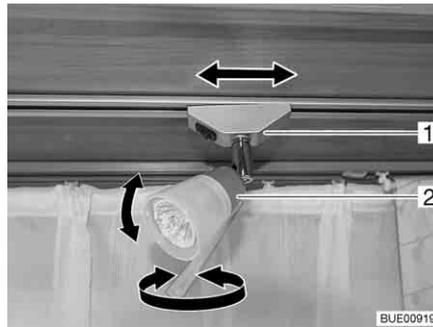

Fig. 46 Spotlight
- Grasp the housing (Fig. 46,2) and turn it.
- Grip holder (Fig. 46,1) and turn by approx. 45°.
- Grip holder (Fig. 46,1) and turn by approx. 90°.